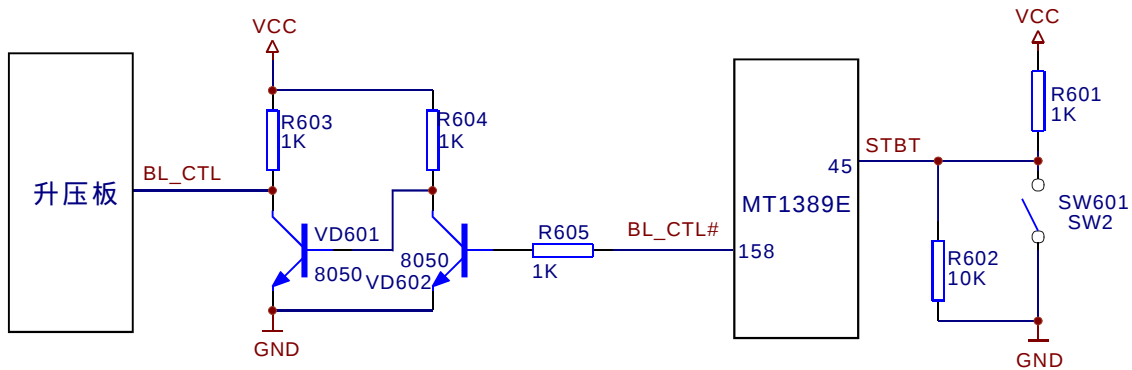

Figure 3.2.8.1 Screen off detect control circuit
1. Screen off detect control circuit is shown as in the following figure 3.2.8.1: